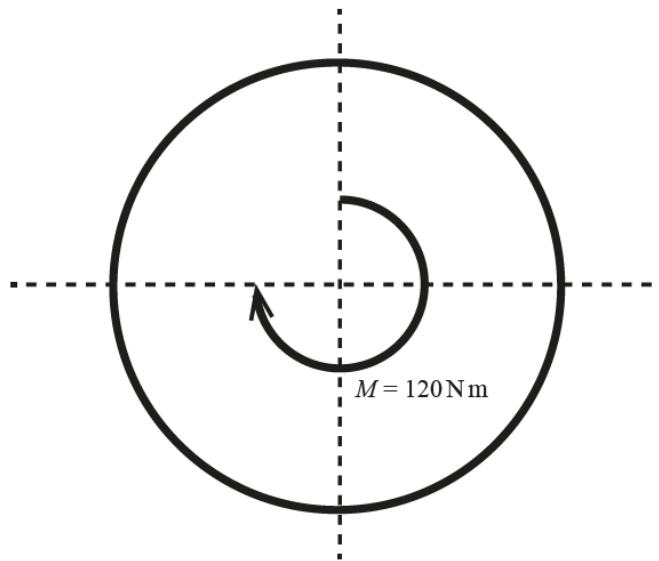

Fig. 2
- 2 (a) Fig. 2 shows the cross section of a metal bar of diameter $d = 40\text{ mm}$ which is subjected to a moment about its centre, $M = 120\text{ Nm}$.
- (ii) Add arrows to Fig. 2 to show the direction of the couple. [2]